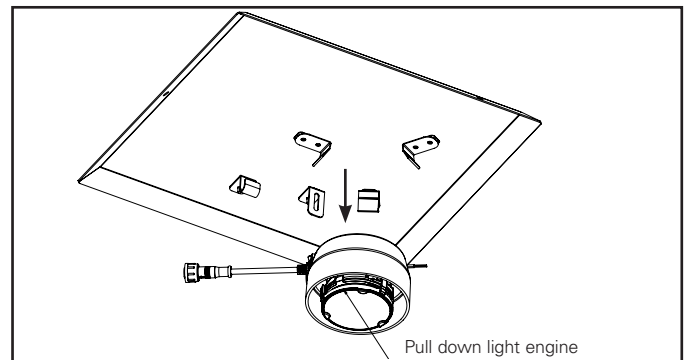

Figure 18.
4. Grab the heat sink and pull down firmly. (fig 18).